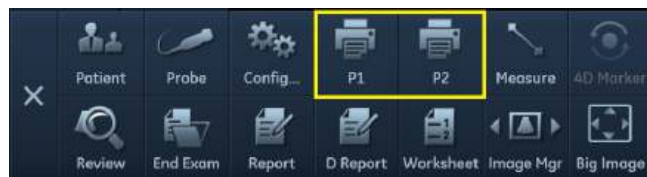

Figure 13-2. The printer control on the operation panel
The printer device is controlled from the **P1/P2** tab on the operation panel on the shortcut bar (see Figure 13-2).
1. Select **P1/P2** on the shortcut bar (see Figure 13-2).